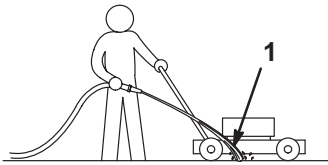

Figure 13
4. Hold the running water hose at handle level and direct the water flow on the ground just in front of the **rear right** wheel (Fig. 13).